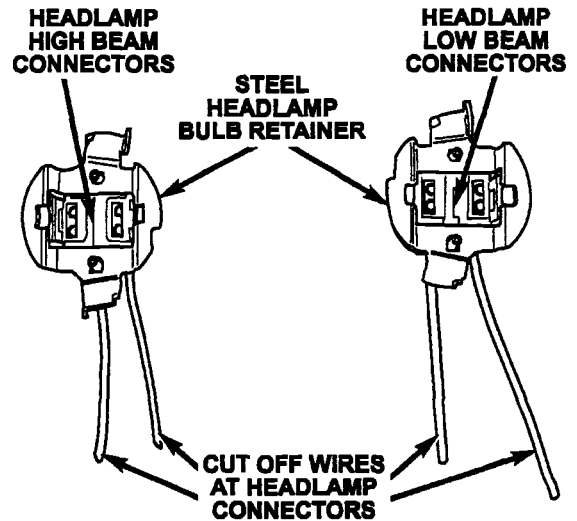

Figure 4
4. Cut off and save the high beam bulb connector from the headlamp wiring harness (Figure 4).
13. Transfer the low beam stainless steel headlamp bulb retainer from the old wiring harness onto the new wiring harness (Figure 4).
CAUTION: Note the orientation of the steel retainer clip before removing it from the old harness (Figure 4). This will ensure it is installed correctly on the new headlamp bulb connector.
16. Transfer the high beam stainless steel headlamp bulb retainer from the old wiring harness onto the new wiring harness (Figure 4).